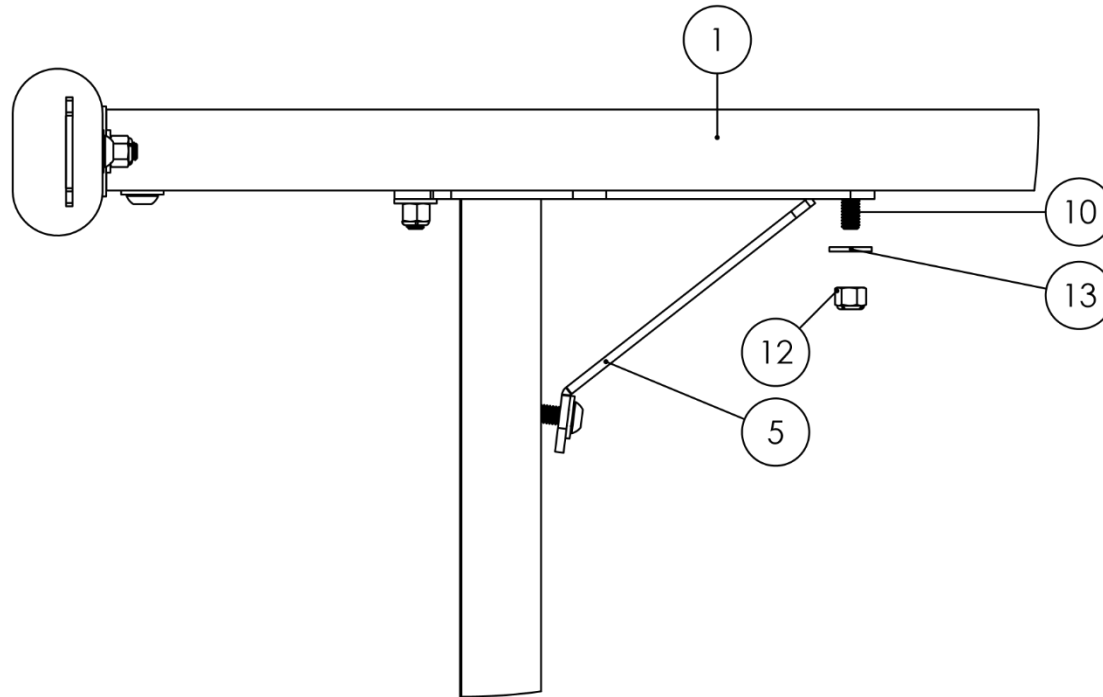

Figure 14
9. **Install the Crossbars onto the Legs.** To install the newly formed Crossbar (Item No. 1) and Side Rail (Item No. 2) assembly, hold it above the Legs (Item No. 4) so that the ends of the Carriage Bolts (Item No. 10) hang down and align with the holes on the Crossbar Gusset Assembly (Item No. 5). Using a Metal Washer (Item No. 13) and a Nylon Lock Nut (Item No. 12) secure each Leg and Crossbar. Figure 14 shows the bolt assembly as it is required.